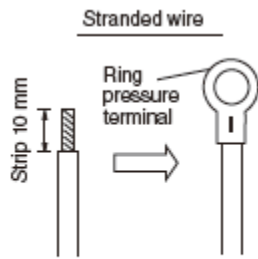
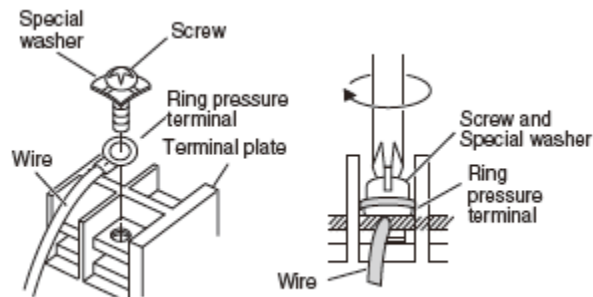

Fig.8-7
Fig.8-8
- (1) Cut the wire end with cutting pliers, then strip the insulation to expose the stranded wiring about 10mm and tightly twist the wire ends. (Fig.8-7)
- (2) Using a Phillips head screwdriver, remove the terminal screw(s) on the terminal plate.
- (3) Using a ring connector fastener or pliers, securely clamp each stripped wire end with a ring pressure terminal.
- (4) Place the ring pressure terminal, and replace and tighten the removed terminal screw using a screwdriver.(Fig.8-8)